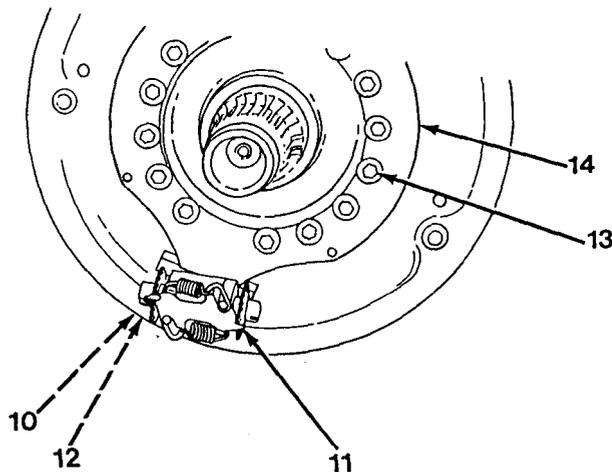

Figure 12-2
2. Install dust shield (17), six bolts and washers (16), and banjo fitting assembly (15) on brake spider assembly (14). Do not tighten until brake lines have been connected.
3. Install automatic adjuster (11), two washers (12) and bolt (10) on brake spider assembly (14, Figure 12-2) roughly centered. Hand tighten only.
4. Apply thread lock sealant MIL-S-461 63 or equivalent to bolt (13) threads. Install brake spider assembly (14) and 15 bolts (13). Torque bolts to 252 lb-ft (342 N•m).